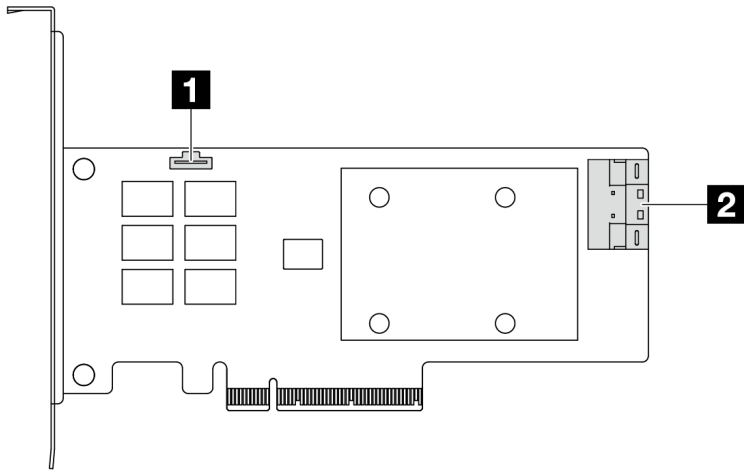

Figure 250. A Gen 4 8i SFF RAID/HBA adapter (one port connector)
- Figure 250 “A Gen 4 8i SFF RAID adapter (one port connector)” on page 284